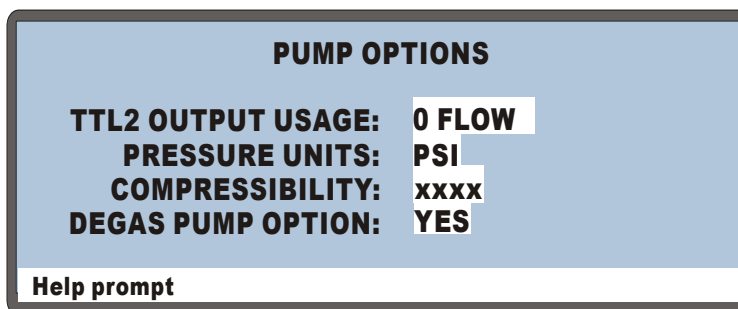

Figure B-5. Pump Options Screen
1. Go to the GS50 **PUMP OPTIONS** screen and set **TTL2 OUTPUT USAGE** to **0 FLOW** (see Figure B-5).